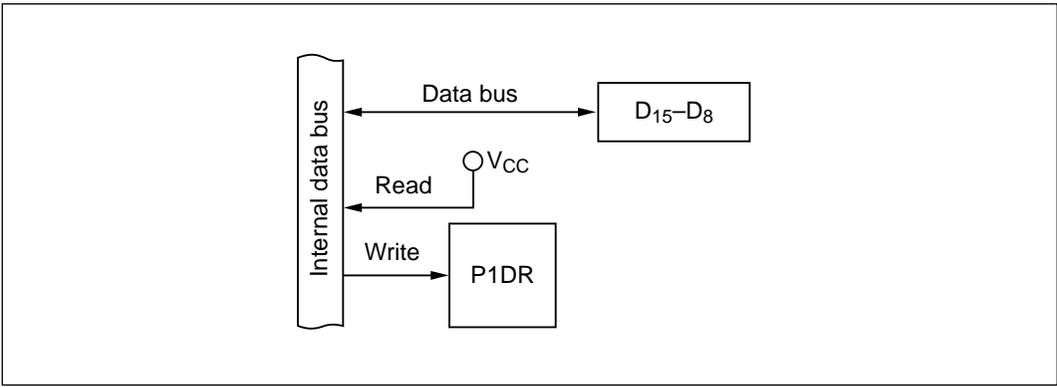

Figure 10-5 Data Bus: D_{15} to D_8 (Modes 1 to 6)
(1) **Data Bus (Modes 1 to 6):** Figure 10-5 shows a block diagram illustrating the data-bus function. Table 10-4 indicates register read/write data. When port 1 operates as a data bus, the values in the port 1 data register (P1DR) have no effect on the bus lines. When read, P1DR returns all 1s.